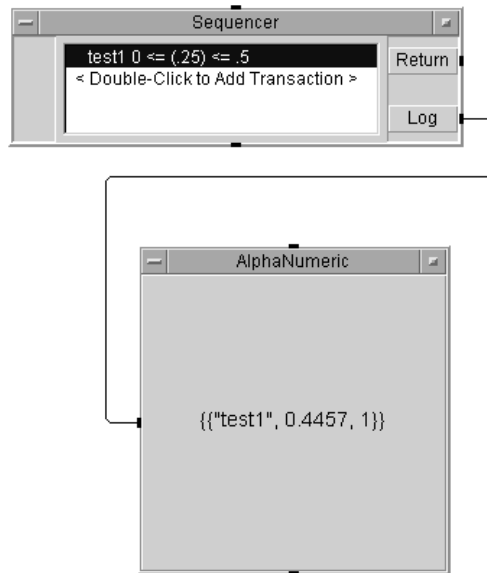

Figure 204 Configuring a Test
- 4 Run the program. It should display the name of the test, the test result, and the pass-fail indicator (**1** for **PASS**, **0** for **FAIL**) in the display, as shown in Figure 204.